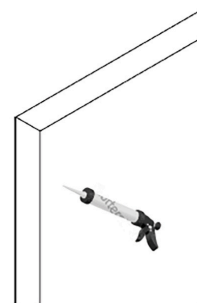

FIGURE 5
Put a small amount of silicone in each hole drilled. Place Plastic Anchors (E), if needed, in holes and gently tap with a hammer. Be sure not to hit the tile. (see Figure 5)